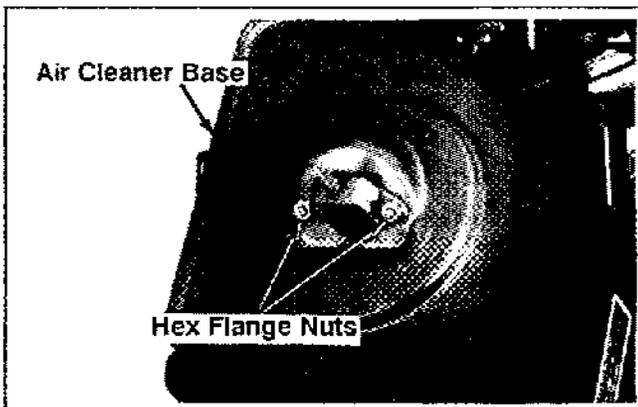

Figure 11-47. Installing Air Cleaner Base Plate.
2. Install the air cleaner base and gasket to the studs and torque the hex flange nuts to 9.9 N·m (88 lbf·in). See Figure 11-47.